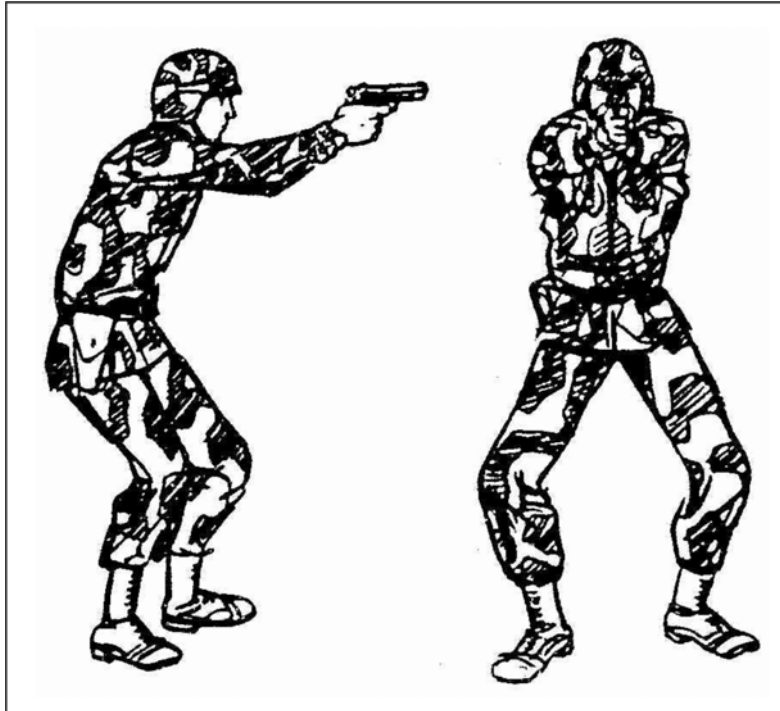

Figure 7. Crouching Firing Position
- (1) Face the target.
- (2) Place the feet a comfortable distance apart.
- (3) Wrap the nonfiring hand around the fist or wrist of the firing hand. The wrist and elbow of the firing arm are locked toward the target.
- (4) Keep your body straight.
- e. Crouching (Figure 7). This position is the same as the standing-without-support position, except the knees are bent slightly and you are balanced by leaning forward at the waist.